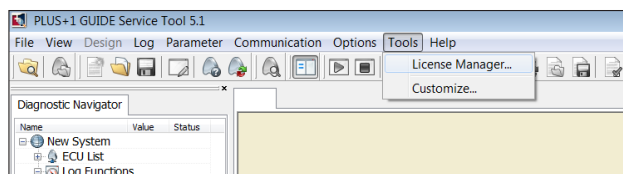

Figure 14. WST License Manager
10. Click on "Tools". On the drop-down menu, click on "License Manager" (Figure 14).